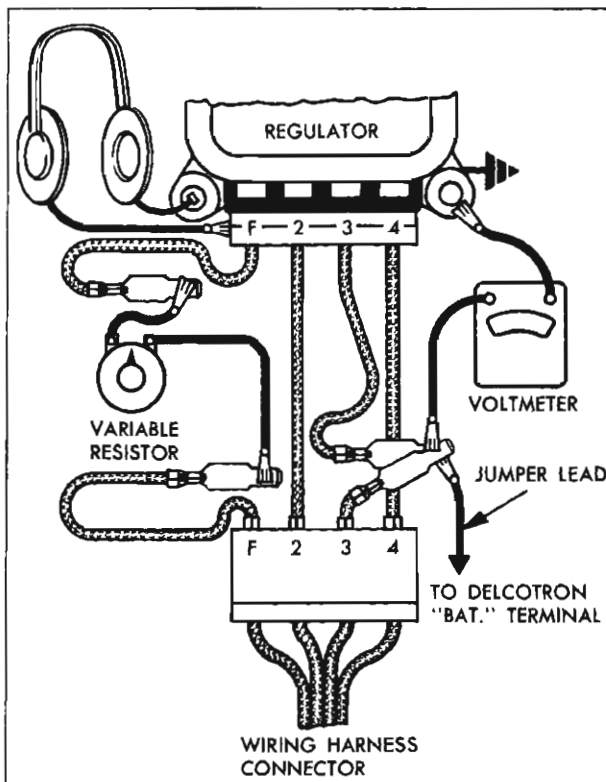

Fig. 12—Checking Voltage Setting
3. Disconnect wiring harness connector at regulator and connect a suitable adapter to regulator (fig. 12).